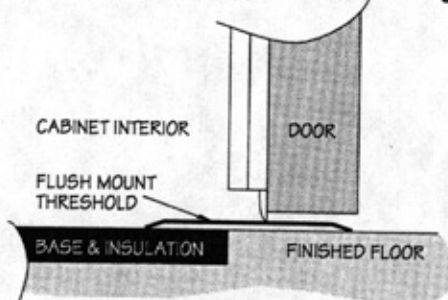

Figure 7-1—Flush mounted installation.
- 3 Install threshold(s) as illustrated in Figure 7-1.